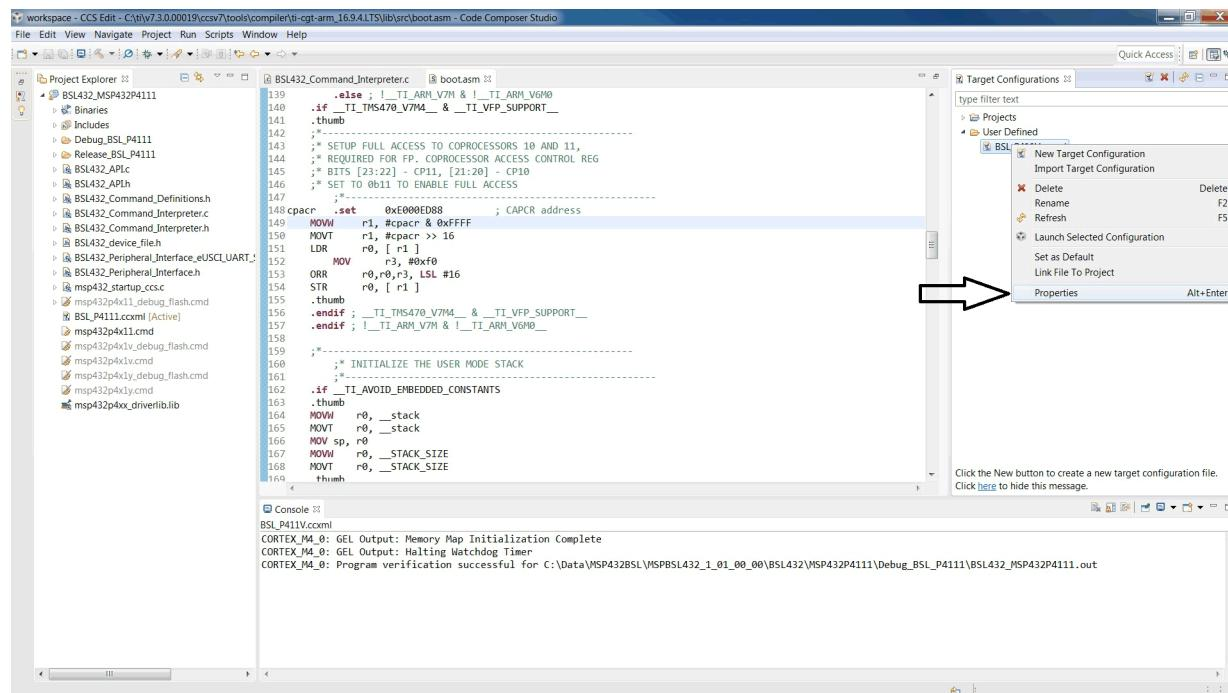

Figure 21. Target Properties
1. Right click the project in *Target Configuration*, and select *Properties* (see Figure 21).